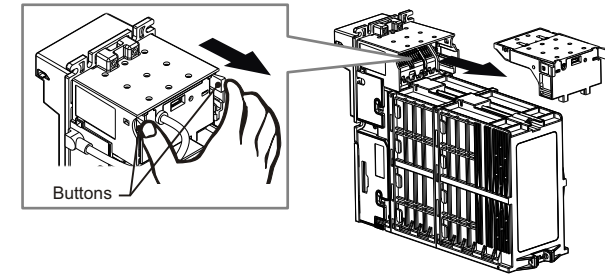

Figure 17
1. Press the buttons on the sides of bill path unit and pull the unit out (as figure 17).